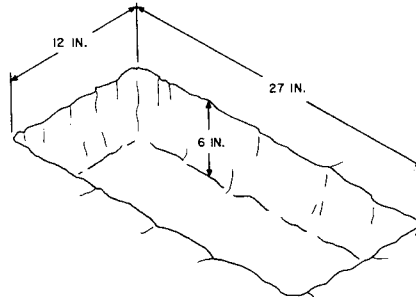

Fig. 24—Excavation Dimensions
- 6.01** Being careful not to damage the cables, excavate a hole to the dimensions illustrated in Fig. 24.